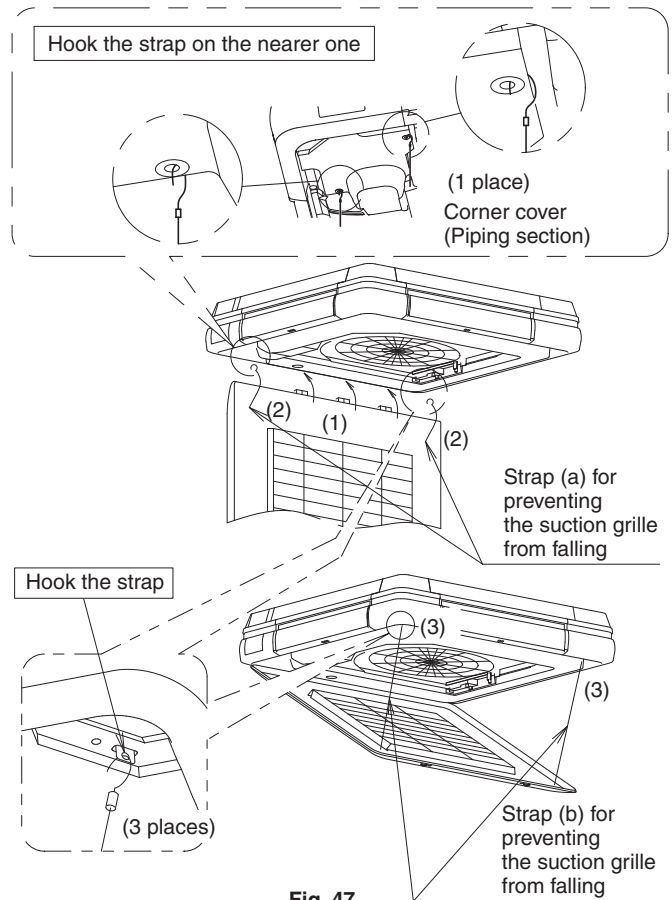

Fig. 47
- After attaching the suction grille in opposite order mentioned in the clause “4. PREPARATION BEFORE INSTALLATION - (3)” (Refer to Fig. 47-(1)), hook the strap (a) for preventing the suction grille from falling. (Refer to Fig. 47-(2))
- Hook the strap (b) for preventing the suction grille from falling. (Refer to Fig. 47-(3))